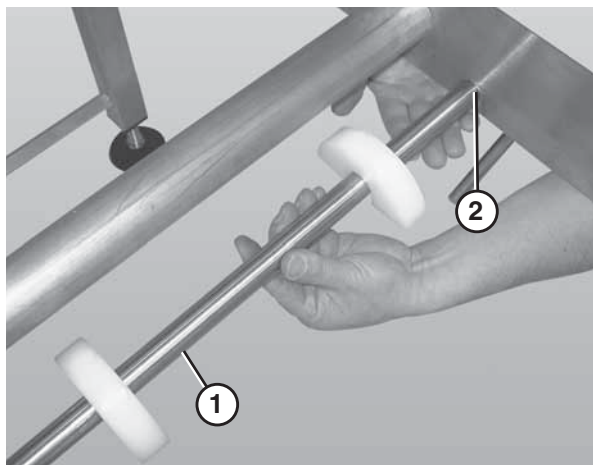

Figure 37
2. Slide the return shaft (**Figure 37, item 1**) up and through the large slot (**Figure 37, item 2**) in the frame (picture shown without the belt or wear strips).
3. Push up on the return shaft (**Figure 37, item 1**) and slide the notched end of the shaft through the small slot on the opposite side of the frame.